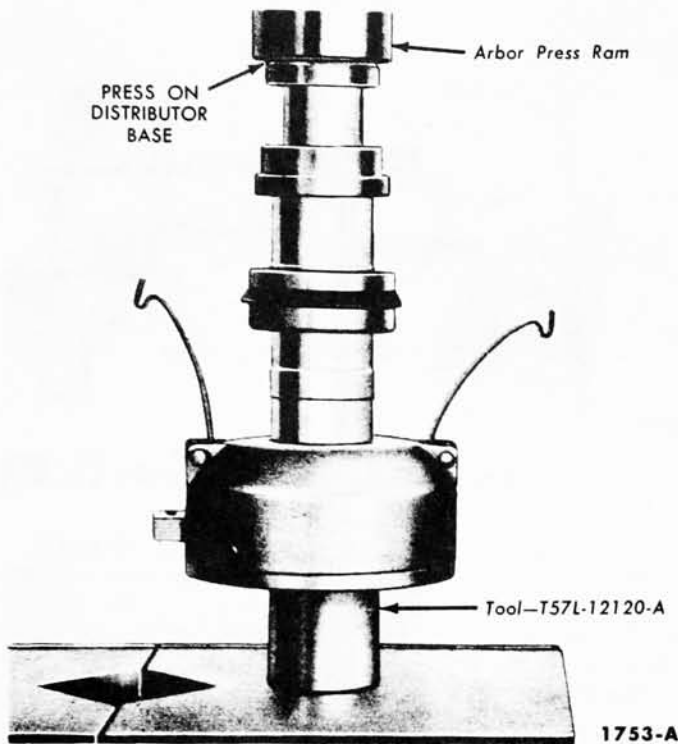

FIG. 28—Bushing Installation
1. Oil the new bushing, and install it on the bushing replacer tool, then install the bushing (Fig. 28). When the tool bottoms against the distribu-